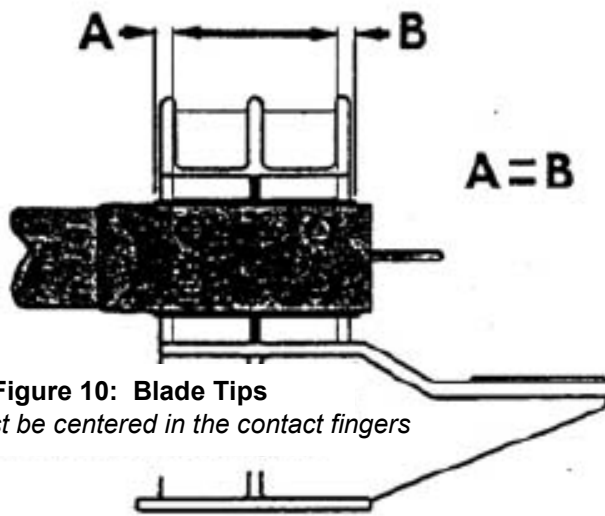

Figure 10: Blade Tips
- B. The blade tips should enter the jaws centrally, without dragging on either contact surface (Figure 10). Minor misalignments can be corrected by jacking the jaw up or down with the jack screws.